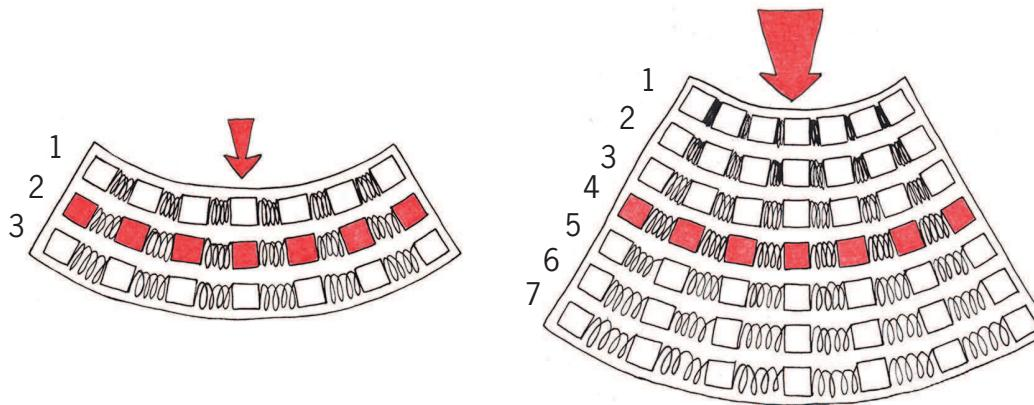

Figure 29
6. Look at the thick beam on Figure 29. There are seven rows or layers of blocks connected with springs. The layers are numbered.
- (a) Which two layers of the beam help it the most to resist bending? (1)